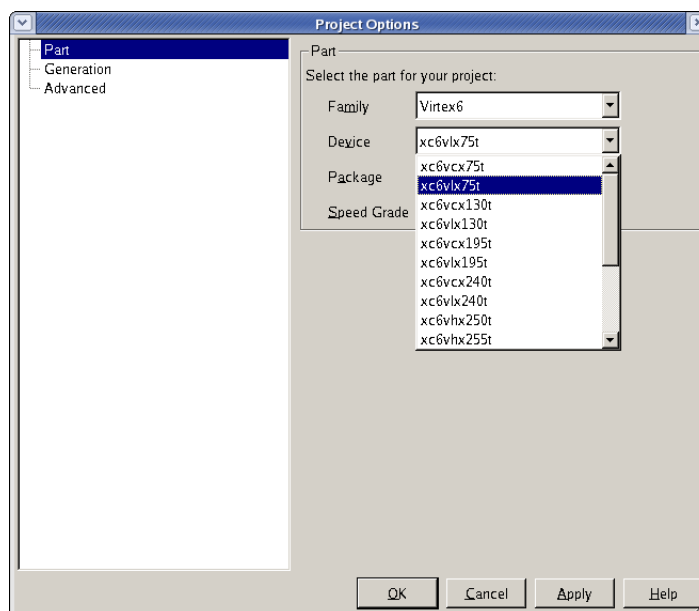

Figure 3-5: Target Architecture Setting
4. Select an appropriate package from the Package list. This example uses the XC6VLX75T device (see Figure 3-5).